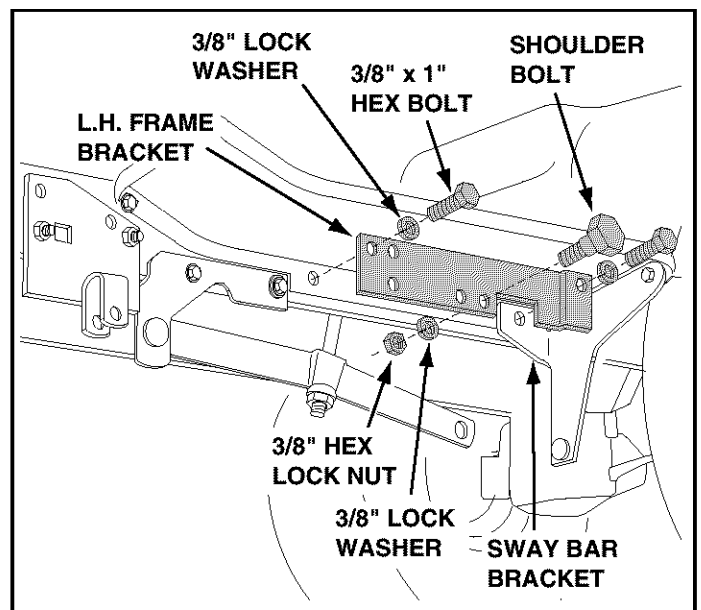

FIGURE 6 **RIGHT SIDE VIEW**
- Assemble the L.H. frame bracket (with bend) to the L.H. foot rest and sway bar bracket as shown in figure 6. Use two 3/8" x 1" hex bolts and two 3/8" lock washers.
- Assemble a shoulder bolt to the outside of the L.H. frame bracket, securing it with a 3/8" lock washer and a 3/8" hex lock nut. See figure 6.